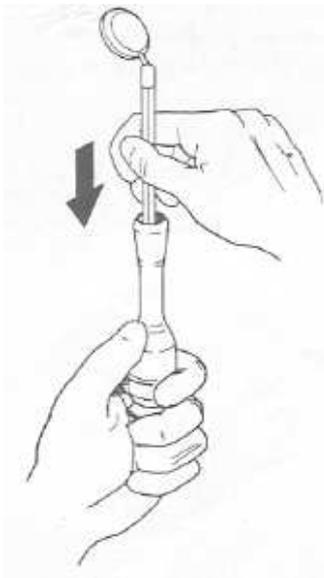

Figure 5
4). Slide the blunt handle of a dental instrument into the narrow end of the body until it makes contact with the O-Ring cleaning insert (Figure 5). Push firmly on the insert until it snaps into place. (A soft click is heard as the O-ring in the base snaps into place). When it does, it will move about one half of an inch.